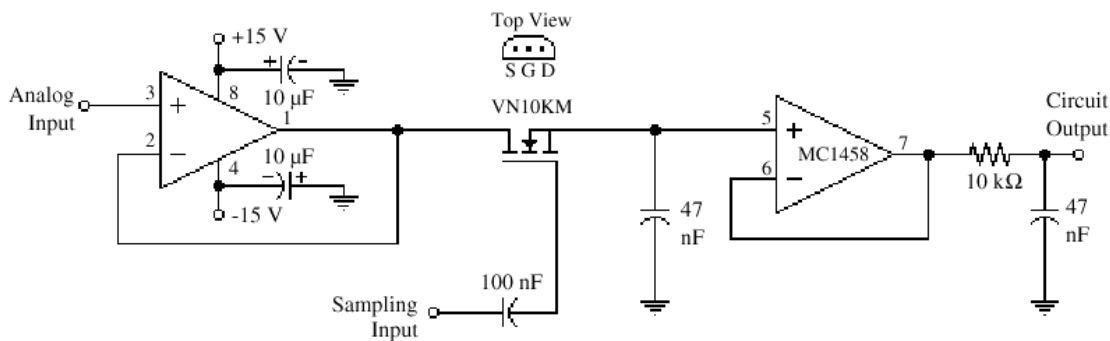

Figure 2. Reconstructed Output
- Step 8.** Add a RC low pass filter to the output of the circuit as shown in Figure 2.